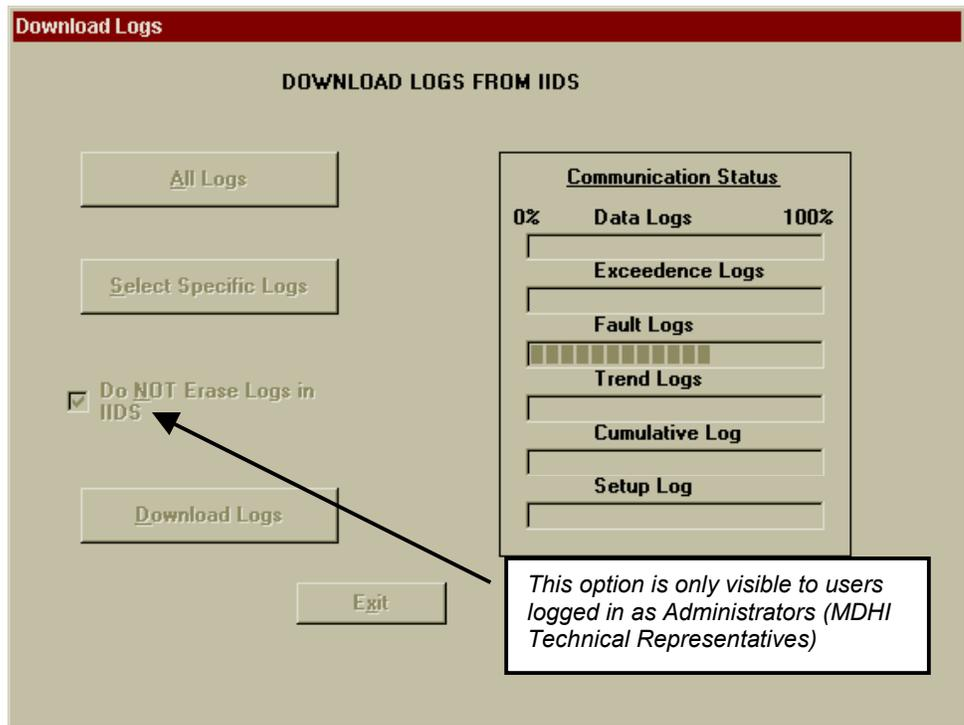

Figure 18. Download Aircraft Logs Screen
- 7. In the Download ASCM Logs Screen (refer to Figure 18), either:
- d. Click on the "Download Logs" control button. The Download Logs screen will reappear and the Communications Status bars will indicate the progress of the download (refer to Figure 18). When complete a message box will appear confirming successful completion.